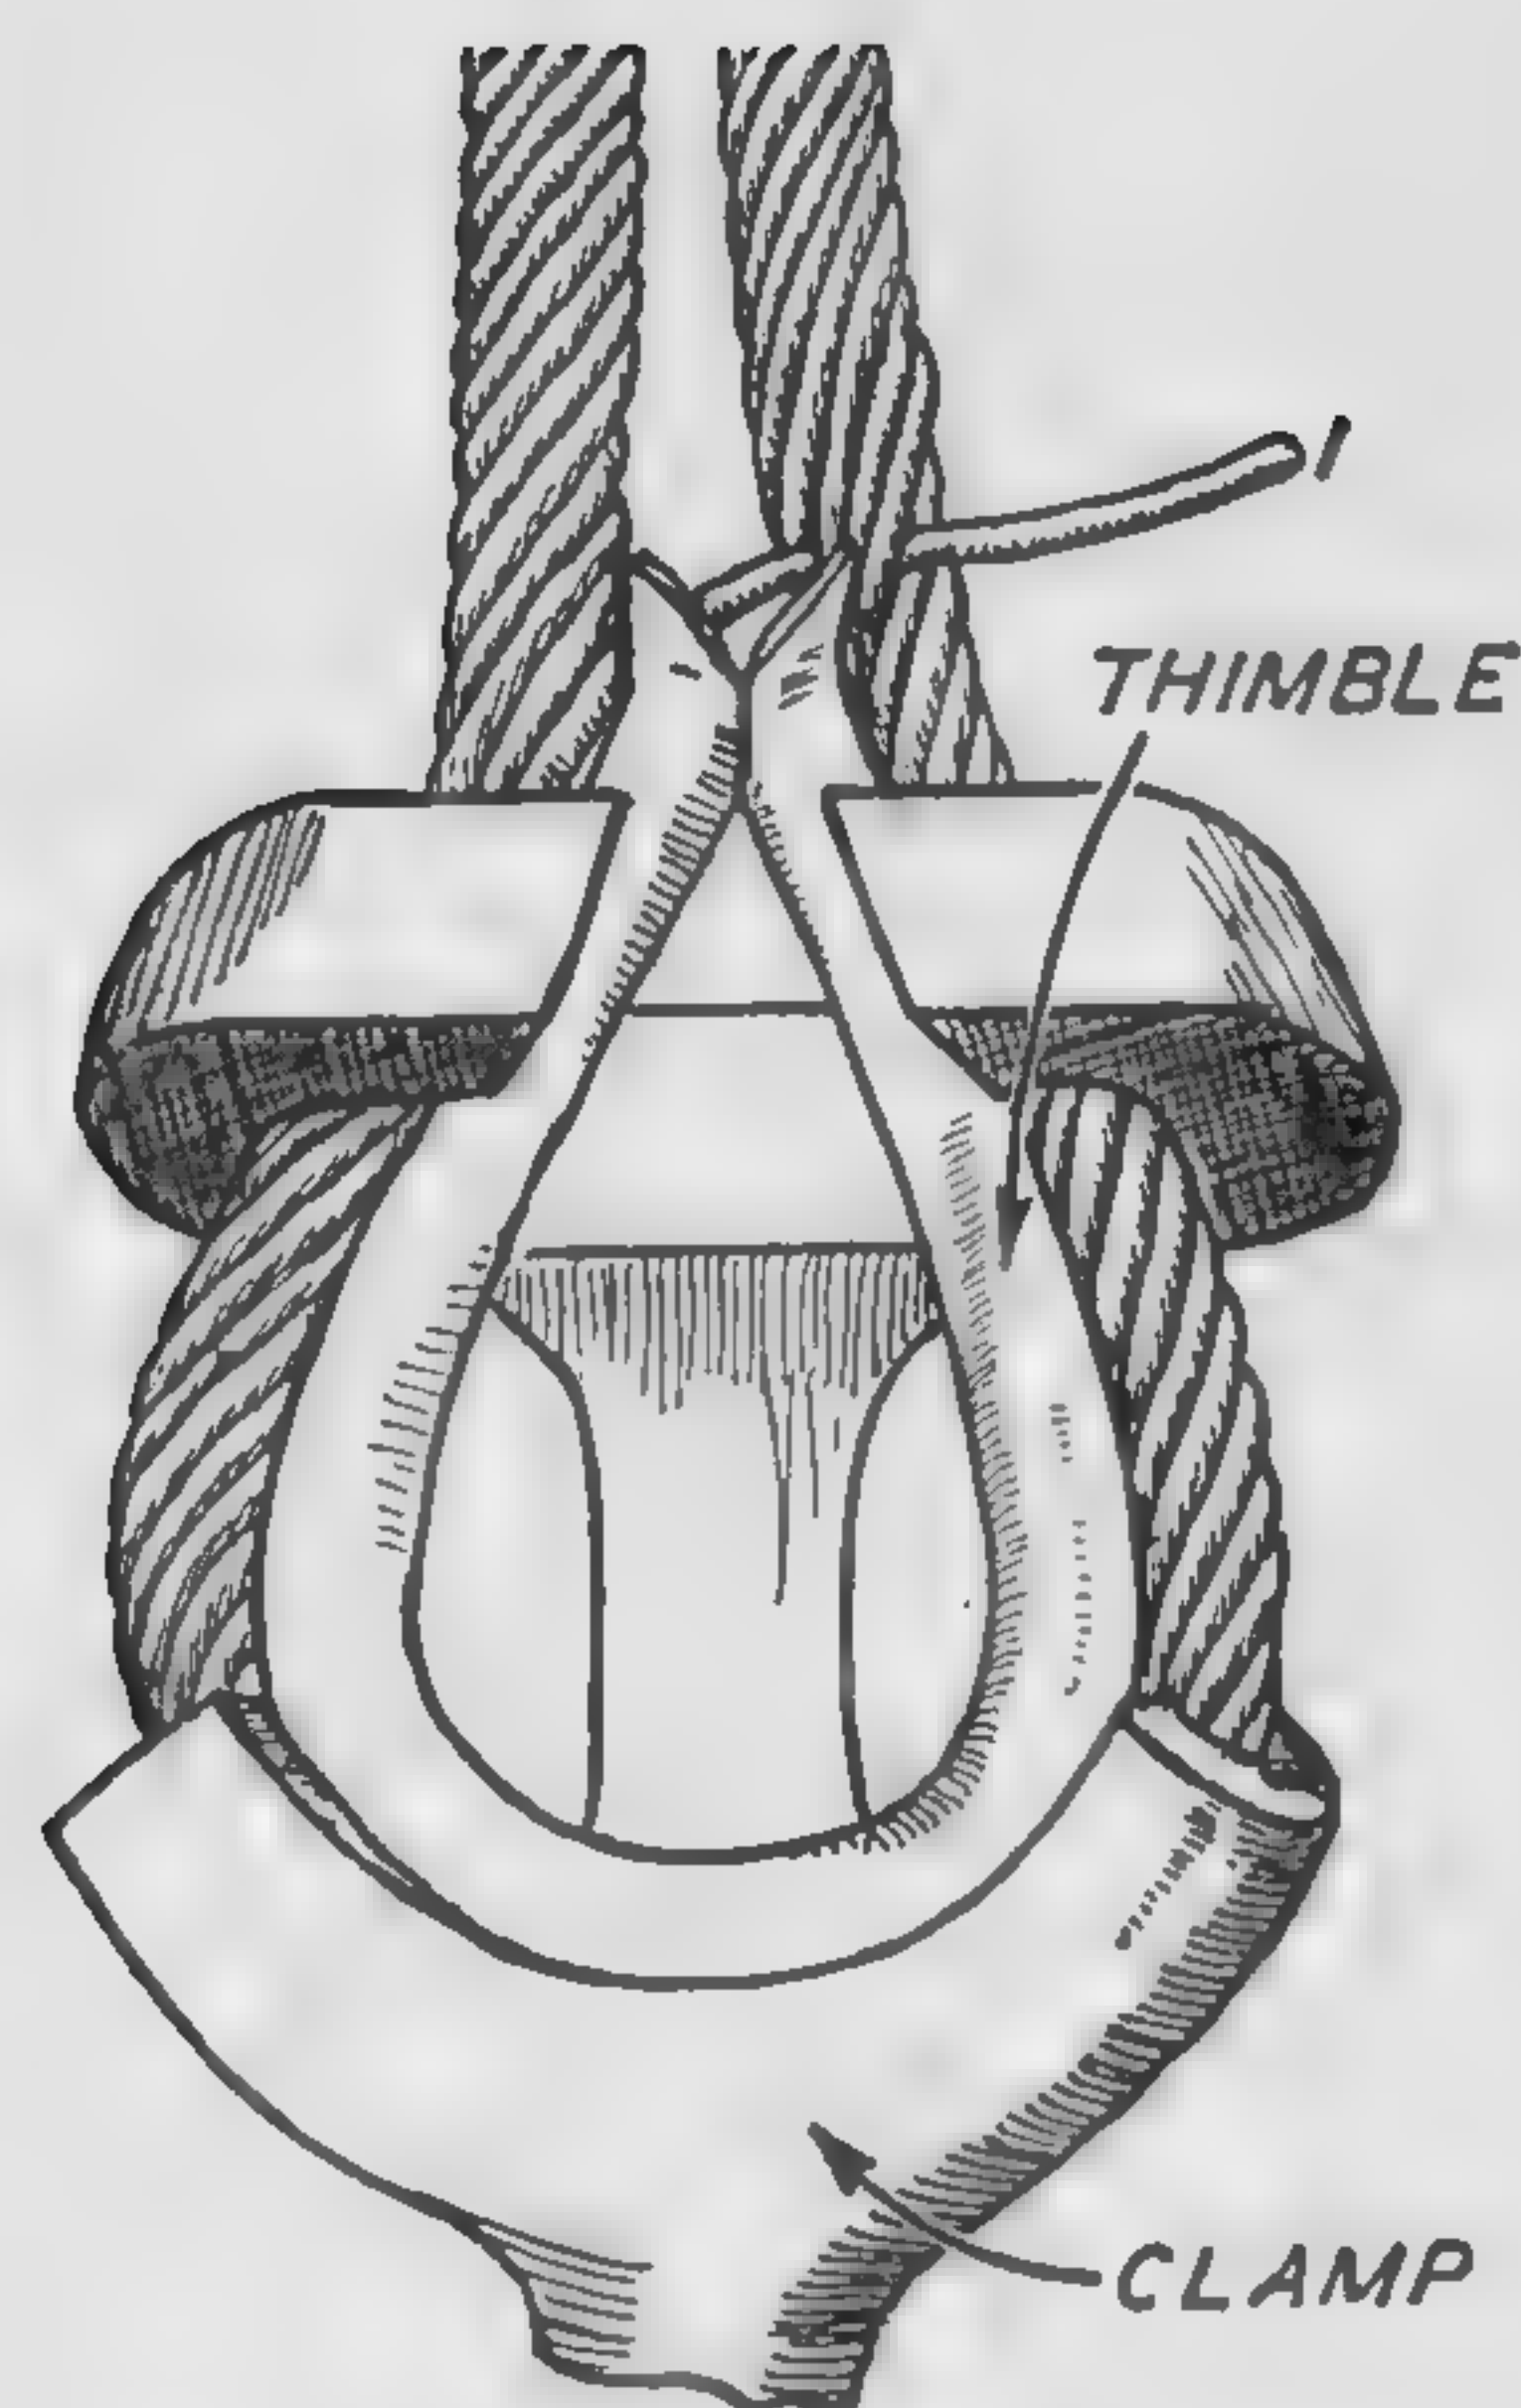

Fig. 13. Cable and Thimble in Clamp, Showing Step 1 of First Tuck
Step 1. Hold the cable as shown in Fig. 13. Take the strand nearest the thimble point on the left. This strand is called No. 1. Separate No. 1 strand from the others. With the marline spike lift the three strands nearest the right thimble point of the long cable. Place No. 1 strand under the three strands going left to right, as in Fig. 13.